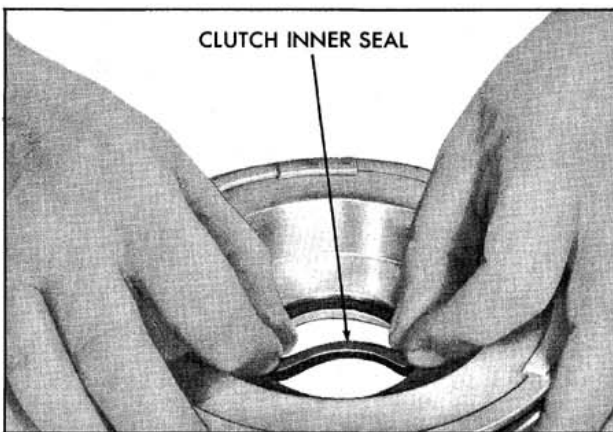

Fig. 6-157 Removing Piston Inner Seal
9. Remove the inner seal from the piston. (Fig. 6-157)